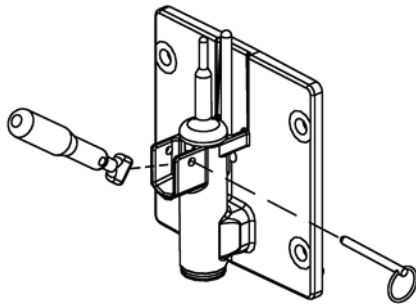

Figure 3-5 Remove Spigot Pin
- B. Pull out the spigot pin by its ring (Refer to Figure 3-5).